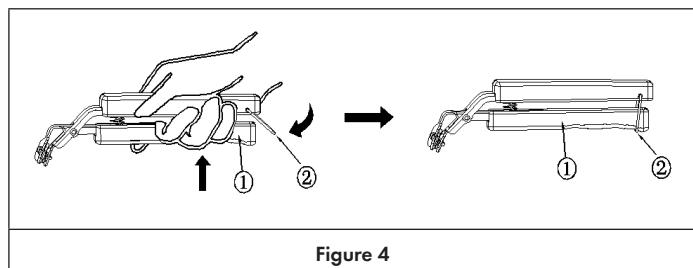

Figure 4
5. Lift the lower part of the handle (1) and slide the lock clockwise downwards (2). Make sure that the handle is properly closed for storage (Fig. 4).